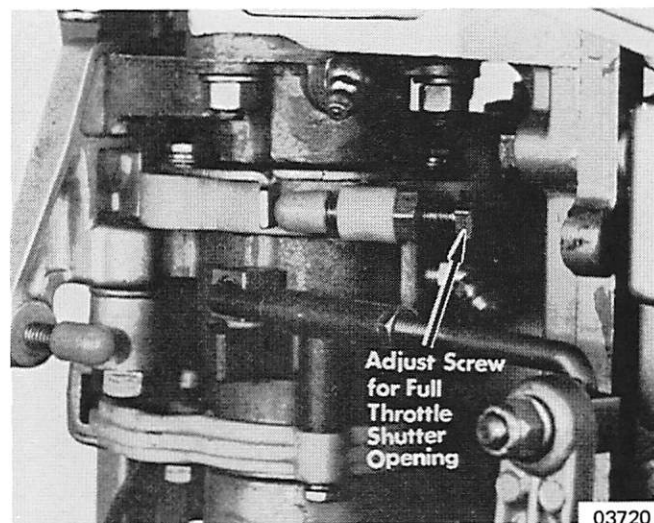

Figure 11. Adjustment Screw (Merc 1250SS)
- Advance the vertical lever to wide open throttle and adjust the screw on the nylon (left side of distributor adaptor, Figure 11) to allow full throttle shutter opening.